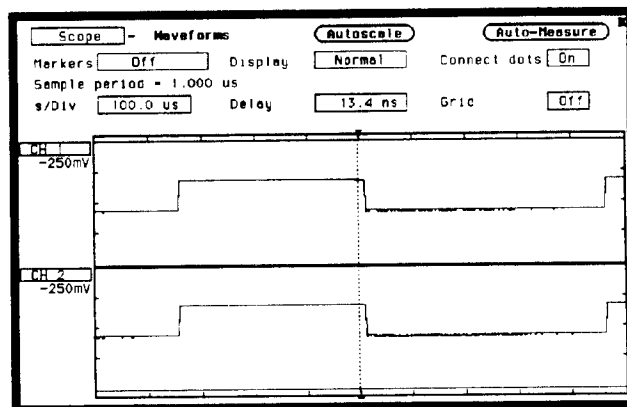

Figure 25-7. One Full Cycle Waveform
1. From the Waveform menu, select s/Div and change s/Div field to 100 μs to display only one full cycle of the waveform. See figure 25-7.
3. Be sure the displayed waveform is at least one full cycle. If not, touch TRIG key, then select **s/Div**. Change s/Div field to $100 \mu\text{s}$ to display only one full cycle of the waveform. See figure 25-7.